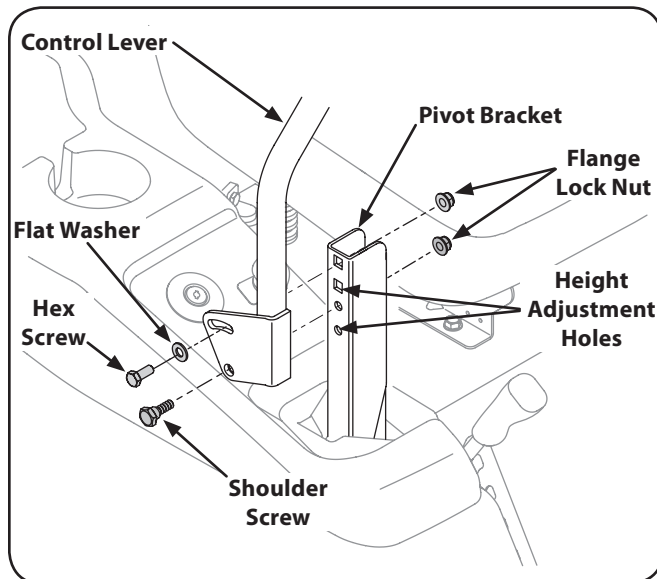

Figure 6-3
2. While supporting the control lever to keep it from falling, remove the hex insert flange lock nut and shoulder screw from the bottom of the control lever and pivot bracket. Refer to Fig. 6-3.
1. If not already loose, loosen the flange lock nut and rotate the control lever either forward or rearward to the desired position. See Fig. 6-3.